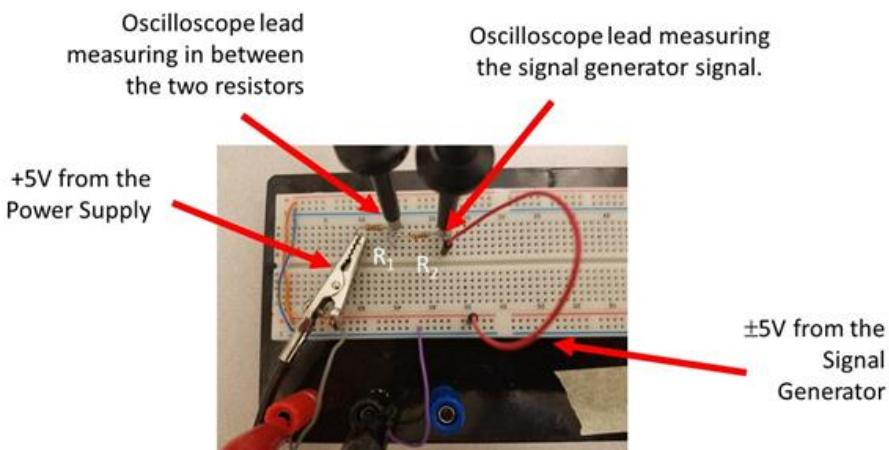
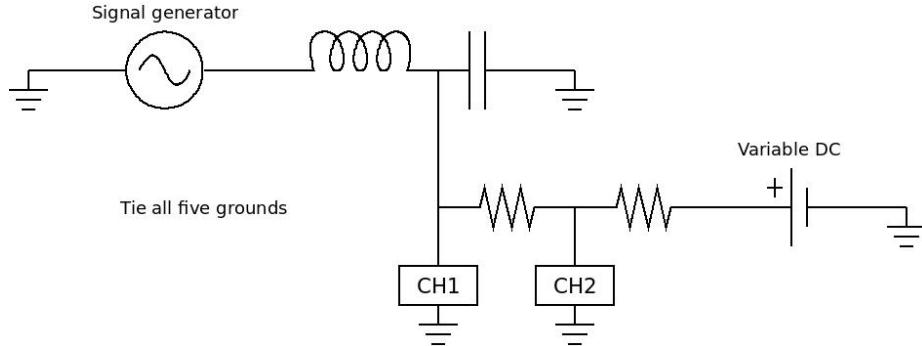

Figure 9.3: Photograph of the ground connections for the voltage divider.
Figure 9.4: Schematic diagram of the series RLC circuit, with the voltage divider attached, grounds properly connected, and the oscilloscope in place.
Before we hook this bit of electronics to our Arduino, we want to check it using an oscilloscope. Our oscilloscopes have two channels where we can hook probes. Let's use one to measure the signal as it comes directly from the signal generator. Let's use the other to measure at the junction in between R_1 and R_2 right were we will connect pin A0. That should be our output. A picture of these connections can be seen in Figure 9.3, and a schematic of the entire RLC circuit, with the voltage divider attached, can be seen in Figure 9.4.
Once again, make sure that you use the oscilloscope to measure the output voltage from the voltage divider prior to attaching the Arduino. We can set up our circuit and clip the oscilloscope probe to either side of the capacitor, as seen in Figure 9.4. As we change the frequency of the signal generator the frequency of the voltage across the capacitor will change. As we get near the resonant frequency, the amplitude of the capacitor voltage will grow. Right at the resonant frequency, ΔV_C will be largest. We will need to measure this with the oscilloscope before using our Arduino, just to be sure the voltage won't go over 5V. This means we need to keep the capacitor voltage below ± 5 V at
- (b) Build and attach a voltage divider, as diagrammed in Figure 9.4.